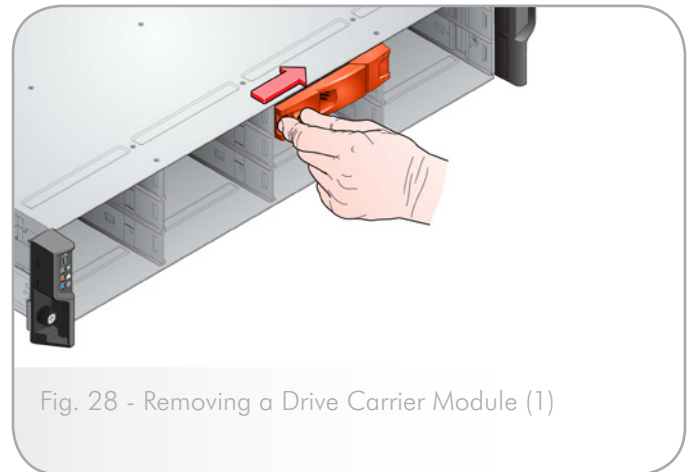

Fig. 28 - Removing a Drive Carrier Module (1)
2. Release the carrier handle, by pressing the latch in the handle towards the handle hinge (i.e. towards the front of the enclosure), see Fig. 28).